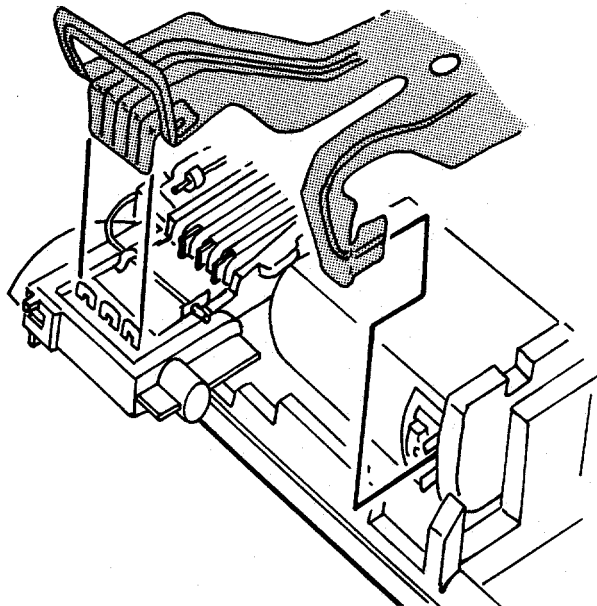

Fig. 30 Reconnecting Flex to Contact Support Block, Motor and Wire Block Assembly
34. Reconnect the Flex to the Contact Support Block, Motor and Wire Block Assembly (see Fig. 30).